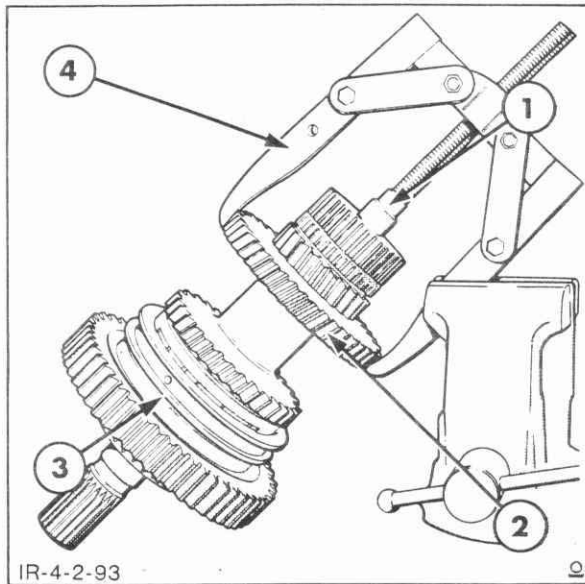

Figure 4-188
2. Attach a puller, Tool #1003 or FNH09516 with shaft protector Tool #625A or FNH09212 to the 2nd gear driven and remove the front bearing, coupling, 4th gear and the 2nd gear driven and high range gear cluster, Figure 4-188.